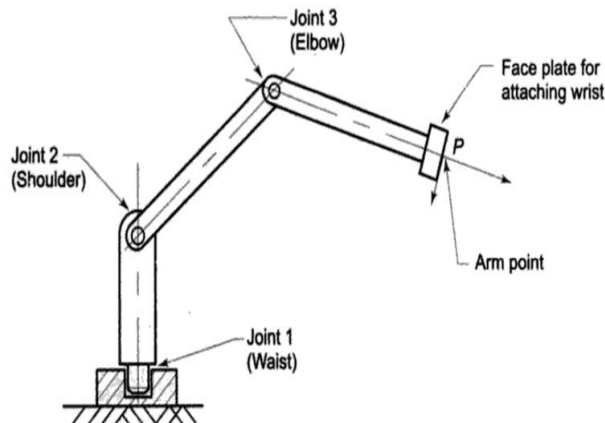

Figure 2 A 3-DOF articulated arm with three revolute joints
4. Determine the Jacobian matrix for a 3-DOF articulated arm with three revolute joints (Figure 2). [15]